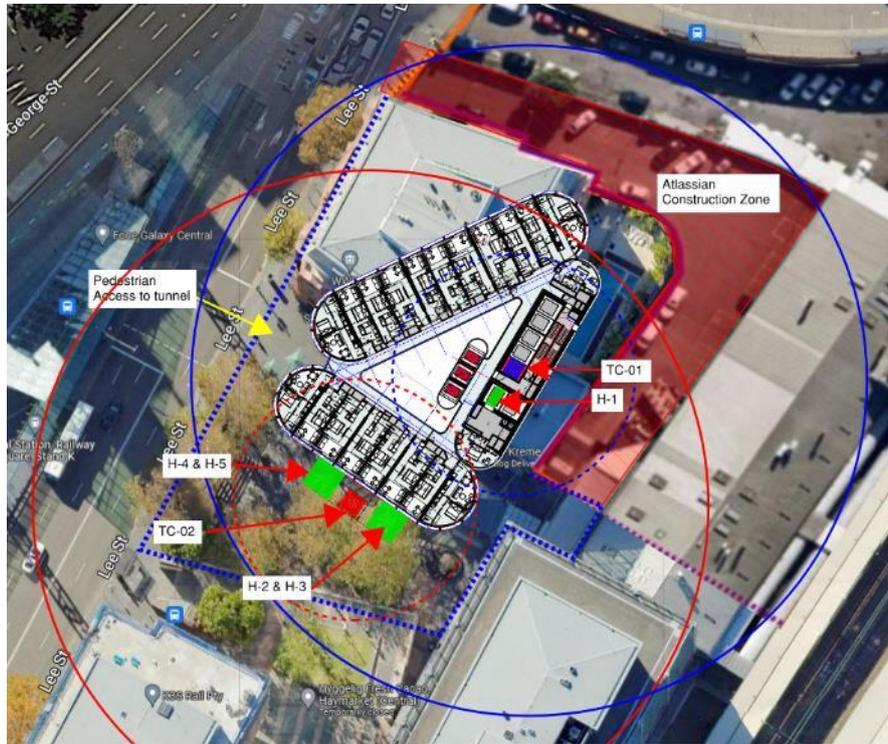

Figure 5.7.2a – TC1 and TC2 max slewing and weathervaning. TC-01 is shown in blue and TC-02 is shown in red. Deane
*Figure 5.7.2a* below provides preliminary Tower Crane 1 and Tower Crane 2 locations including the maximum slewing radius and weathervaning. The Weathervane allows the jib of a tower crane to rotate in the direction of the wind like a weathervane, reducing loads on the cranes structure and associated footings. All tower cranes must be allowed to weathervane 360 degrees at all times. Cranes located in the proximity of the other's weathervane will be designed at different heights to allow for such a prerequisite.